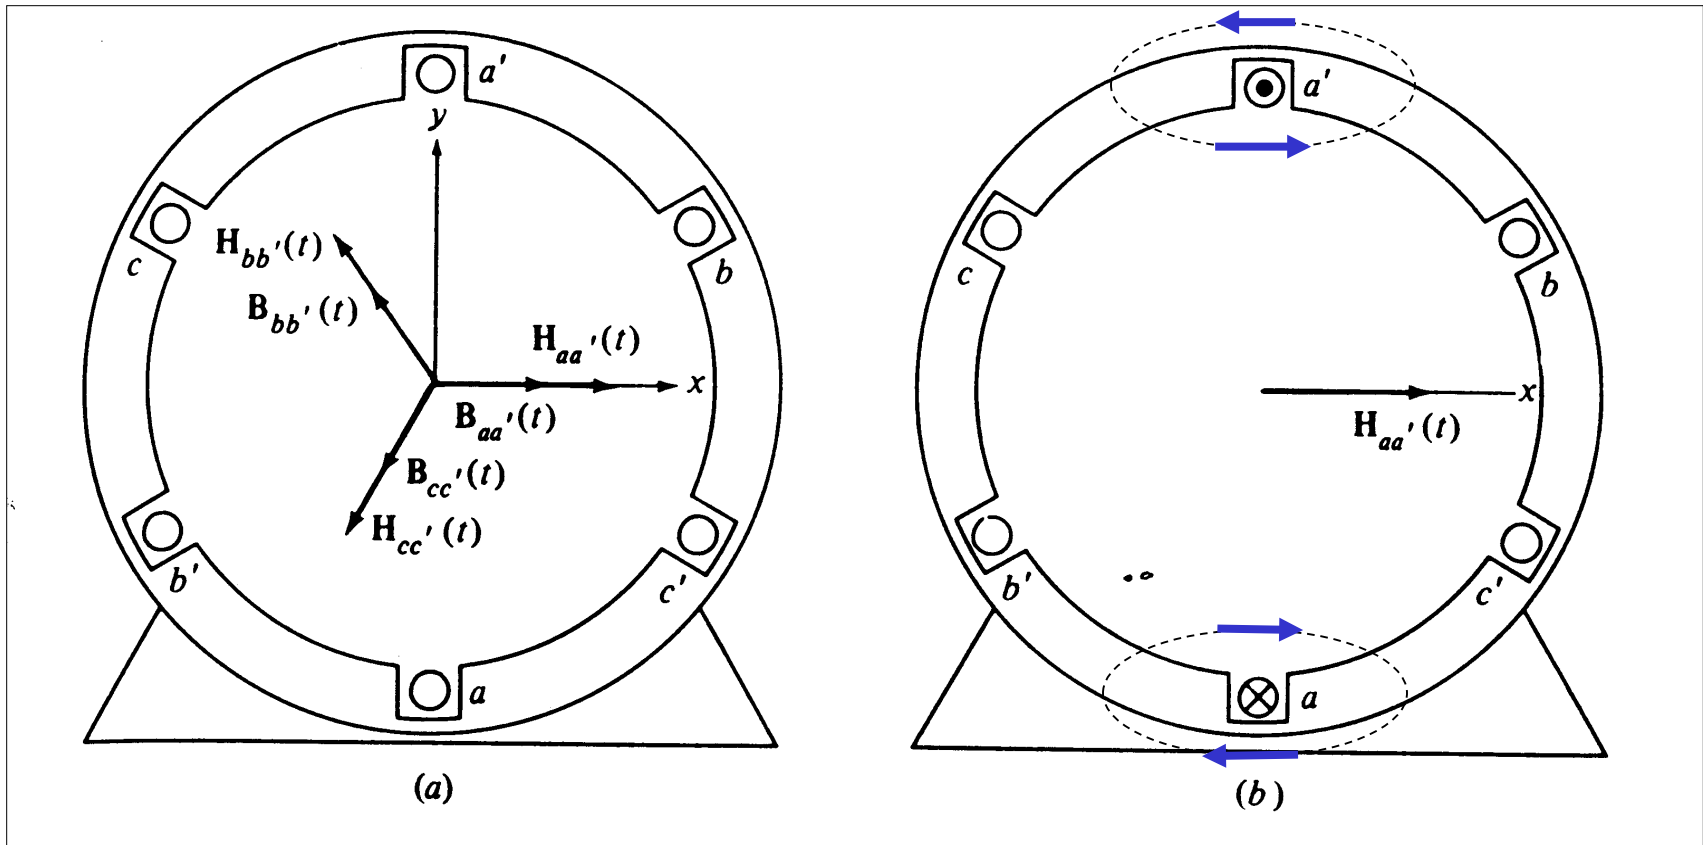

Figure 5.11: (a) A simple three-phase stator and (b) Magnetizing intensity vector produced due to current flowing in coil aa' only
- Consider a simple stator with three coils as shown in Fig. 5.11.